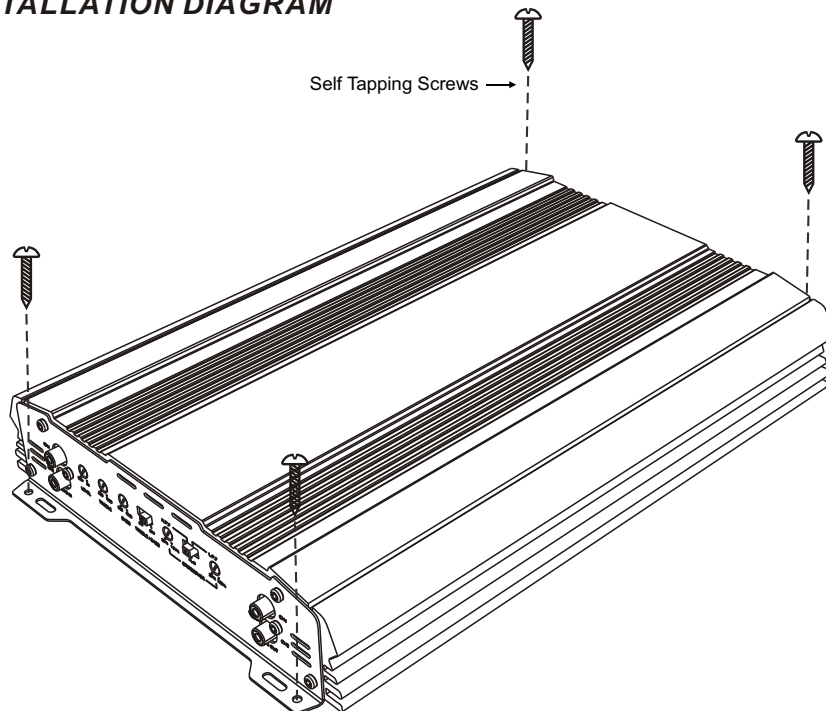

FIG.1
1. After reading precaution, decide where you are going to install the unit. Also, see Fig.1.